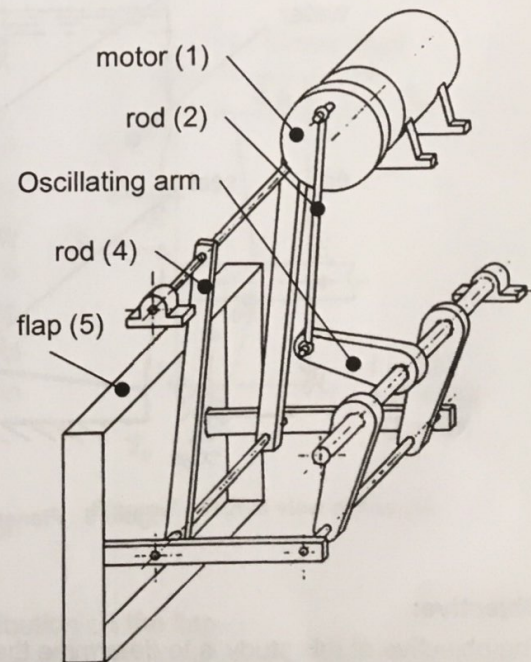

Figure 4: Swell simulator
### Description: (see Figure 4)
To generate waves, a motor operates the system in Fig. 4 including a flap (solid 5) which agitates the water in the basin. The motor (1) rotation is transmitted to an oscillating arm (3) via a connecting rod (2). The periodic motion of the flap (5) guided by rod (4) is produced by the oscillations of arm (3).